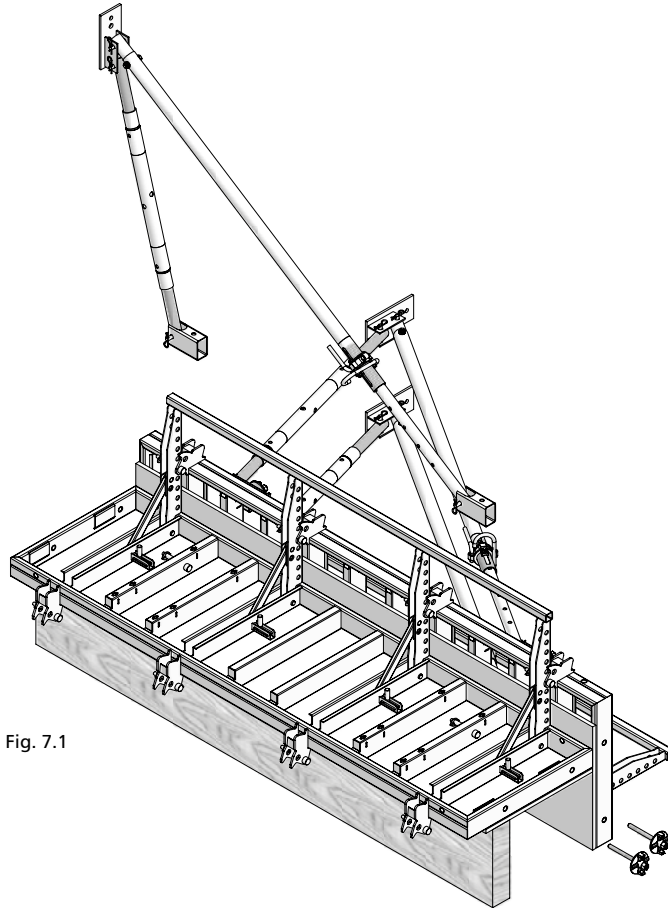

Fig. 7.1
1. Attach the formwork-prop connectors on the brace frames to the multi-function profiles using flange screws (Fig. 7.1).